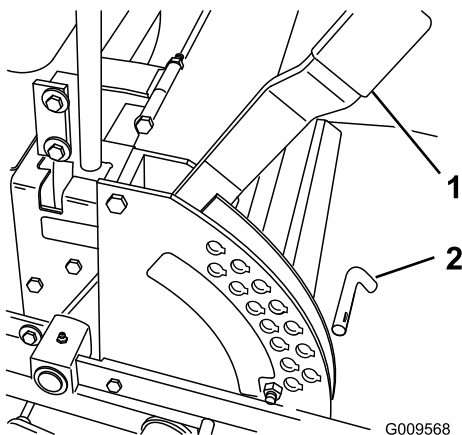

Figure 19
1. Raise the height-of-cut lever to the 'TRANSPORT' position (also the 127 mm (5 inch) cutting-height position) (Figure 19).
2. To adjust, remove the pin from the height-of-cut bracket (Figure 19).
3. Select a hole in the height-of-cut bracket corresponding to the height of cut desired and, insert the pin (Figure 19).